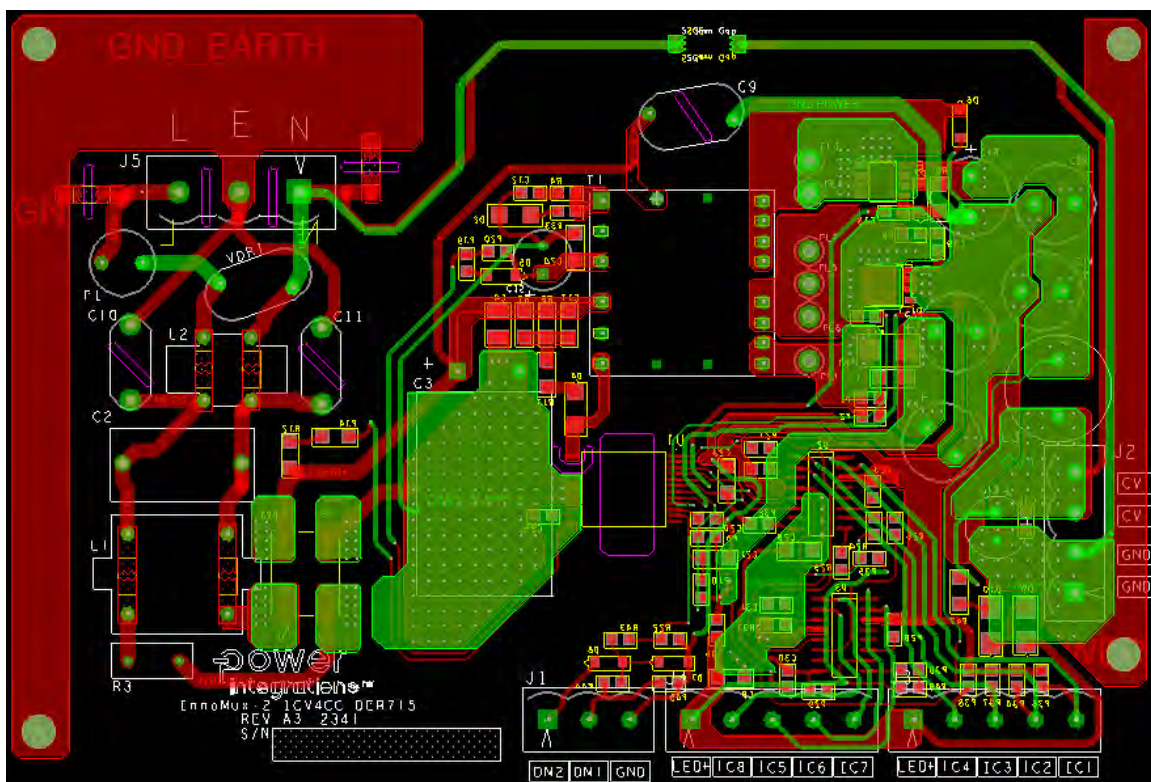
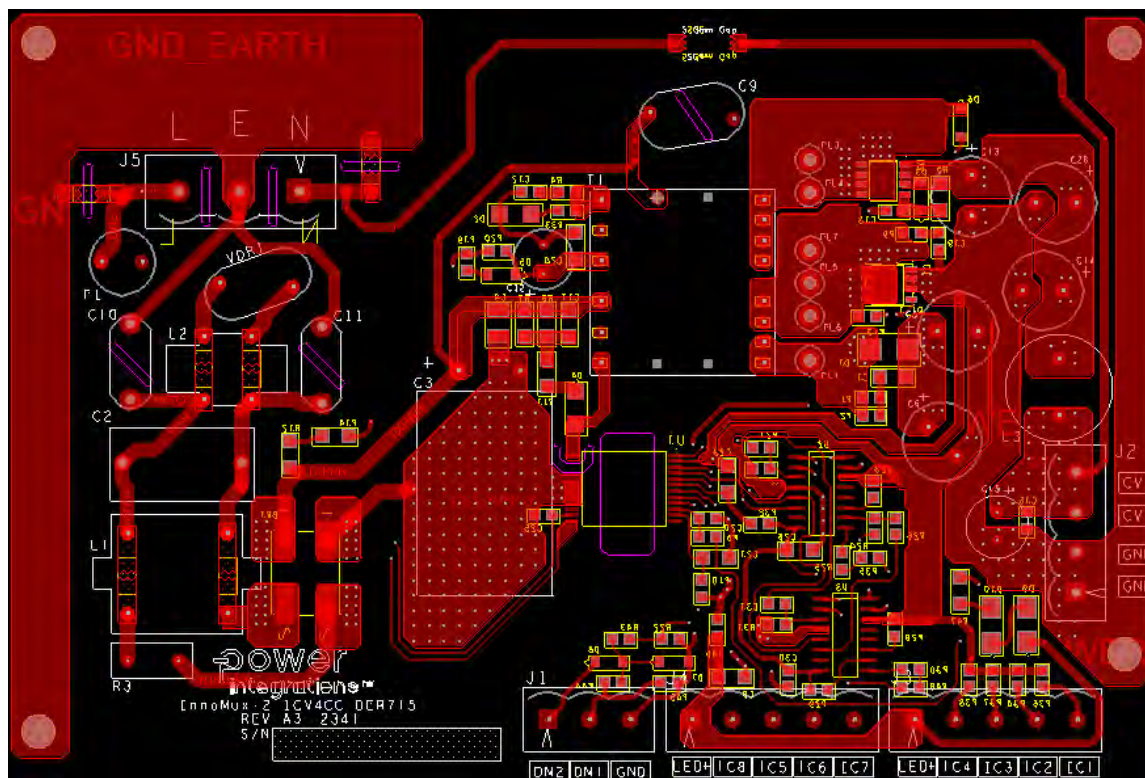
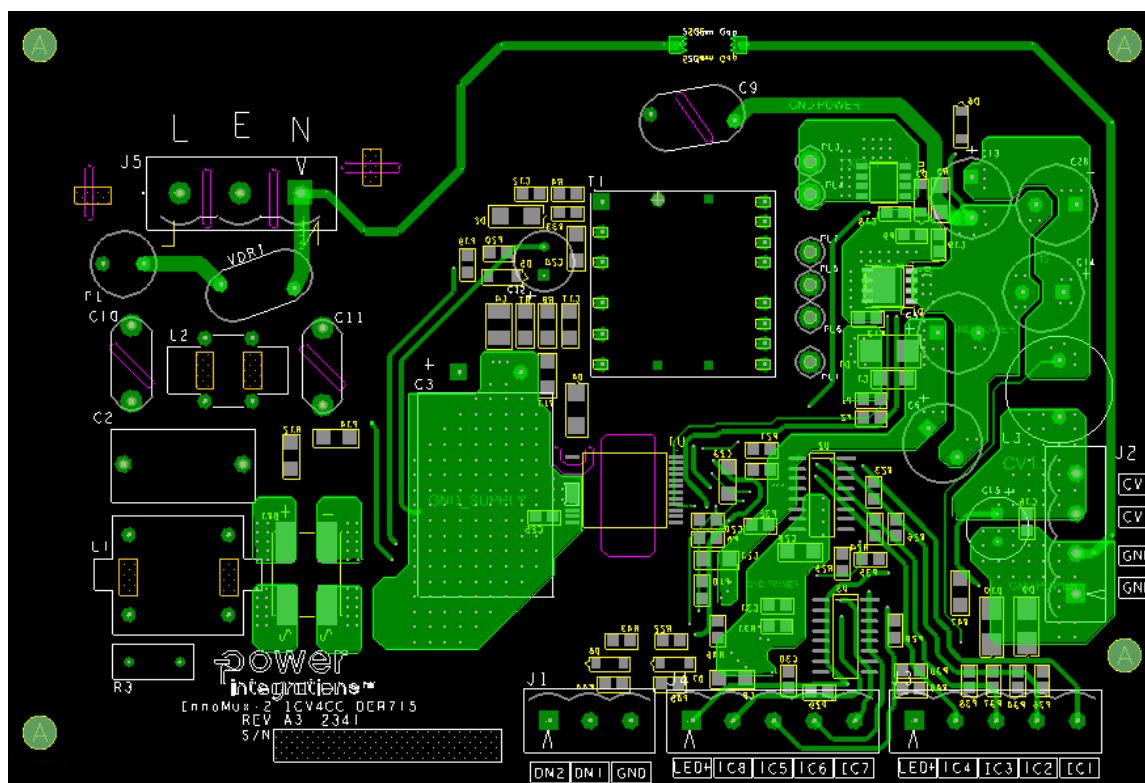

Figure 8 – Printed Circuit Layout.
Figure 9 – Printed Circuit Layout, Bottom.
Figure 10 – Printed Circuit Layout, Top.
The converter PCB layout is illustrated on Figure 8, Figure 9 and Figure 10 below. PCB copper thickness is 2 oz (2.8 mils / 70  $\mu\text{m}$ ).
- (1) FWD pin: FWD signal has large  $dv/dt$ , which can be one of the major noise sources on the secondary circuit. FWD signal is critical for the controller so its PCB route should be kept away from the other signals. A 90° angle route is used here to ensure FWD signal is as far from the other signals as possible.
- (2) Ground plane: The impedance from InnoMux2-BL controller's ground to SOURCE terminal of the SR MOSFET (Q1) should be minimized. Ground for both controllers U1 and U2 should be separated from the power return ground. Star-connection ground is used here, to prevent the large secondary discharge current from affecting the ground level of the InnoMux2-BL controller (U1) and LED backlight controller IML204DG IC (U2).
- (3) Thermal: The primary switch in InnoMux2-BL IC (U1) is cooled through the SOURCE pin of the IC. It is crucial to minimize the thermal impedance between the SOURCE pin and the PCB cooling copper, as illustrated in Figure 8. To enhance cooling efficiency, a substantial copper area is employed.